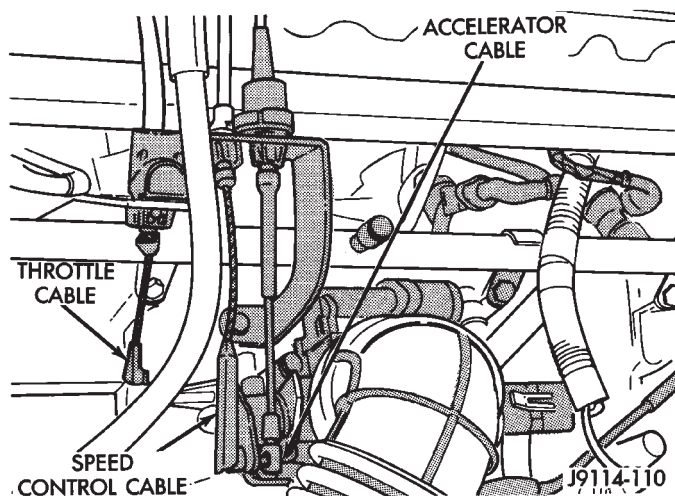

Fig. 14 Accelerator, Throttle and Speed Control Cables
- (1) Disconnect the negative battery cable.
- (2) Disconnect air cleaner hose from throttle body.
- (3) Disconnect Idle Air Control Motor and throttle position sensor wire connectors.
- (4) Disconnect accelerator cable, throttle cable (automatic transmission) and speed control cable (if equipped) from throttle arm (Fig. 14).